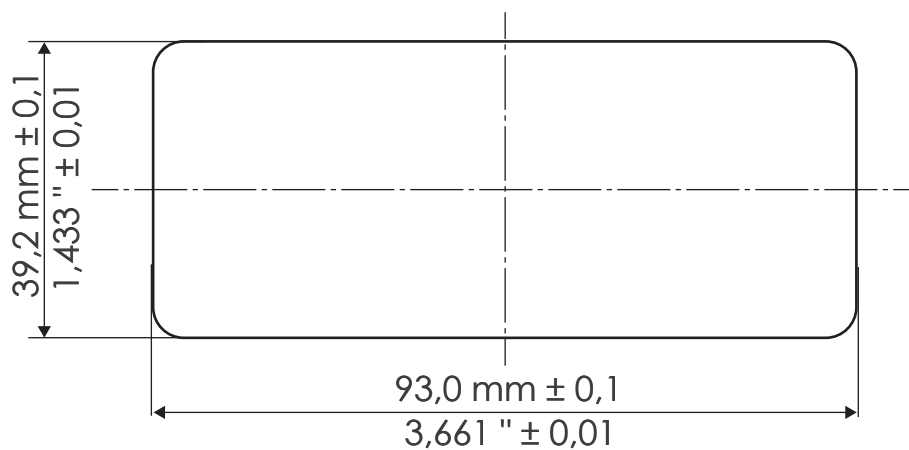

Fig. 7: Dimensions for the milled cut-out, TOUCHinlay
1. Use a milling cutter or similar to mill the cut-out. The dimensions for the milled cut-out are shown in Chapter 5.2.4 (Fig. 7).